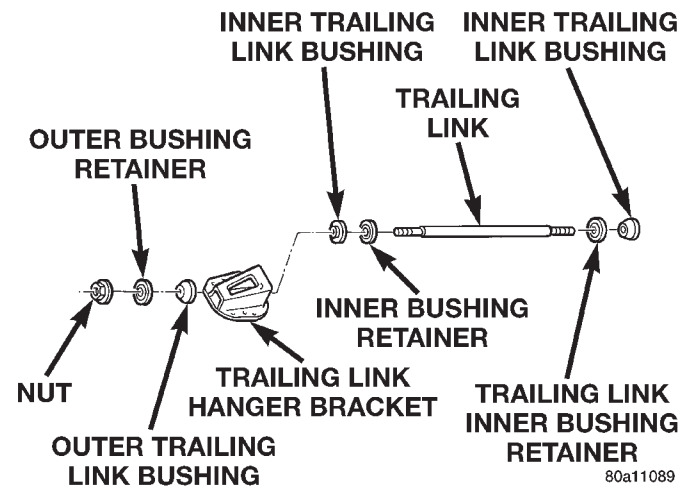

Fig. 50 Trailing Link Bushing Installation
(1) Install the inner bushing retainer, and inner bushing (Fig. 50) on the trailing link. Install the trailing link, retainer and bushing on the hanger bracket (Fig. 50). Then install the outer bushing, outer bushing retainer and nut (Fig. 50) on the trailing link. Tighten the trailing link retaining nut to a torque of 99 N·m (73 ft. lbs.).